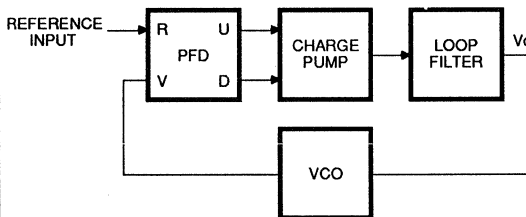

Figure 2. PLL with Three-State Phase Detector and Charge Pump
Figure 2 shows the complete PLL circuit. The states of the PFD are determined by the edges of the input wave-form. If the R-input (reference) phase leads the V-input (VCO) phase, then a rising edge on R input sets the U (up) terminal true. The next rising V edge resets the U terminal false. Conversely, if V leads R, a V edge sets D (down) true and the next R edge resets D false. Both U and D can be false simultaneously, or either one alone can be true, but both can never be true simultaneously. Therefore a PFD has three allowable states at its output terminals, up (U), down (D) and neutral(N).